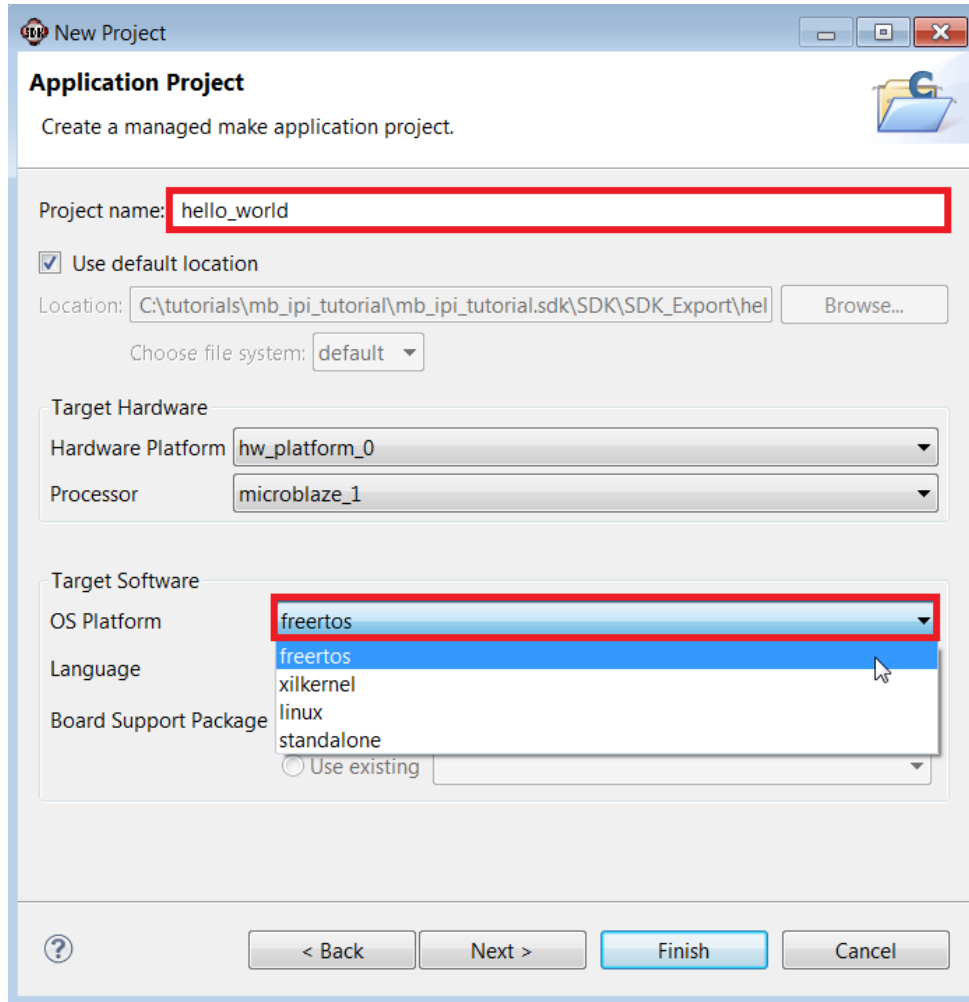

Figure 138: New Project: Application Project Wizard
4. Type a name (**hello_world**) for your project and choose **FreeRTOS** as the OS platform (**Figure 138**).